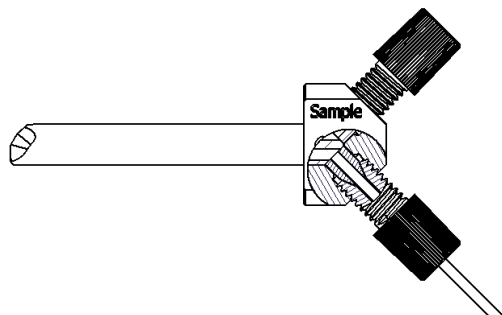

Figure 3 (Housing view is partially sectioned)
3. Insert the ferrule-end of the Adaptor tube into the Housing port (Marked 'Gas') then tighten the Ratchet nut. The Ferrule is now sealed against the Nebulizer body – Refer figure 3